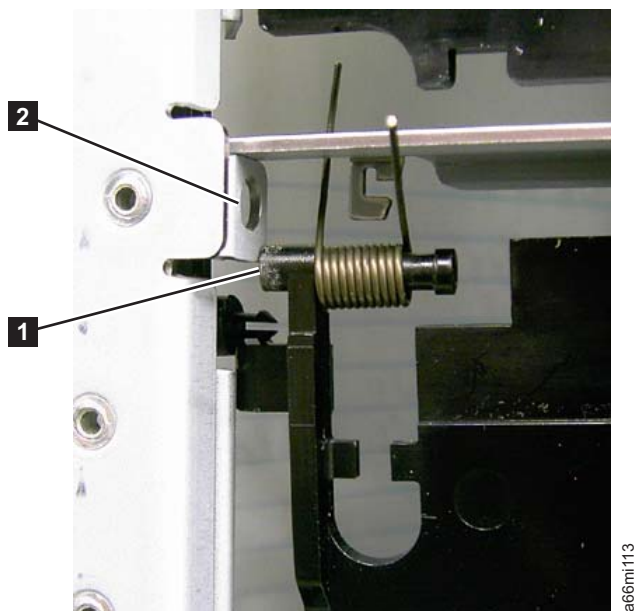

Figure 8-32. I/O Safety Flap Pivot Pin, Removed
6. Move the bottom flap to the right to remove the pivot pin (**1** in Figure 8-32 on page 8-34) from the pivot hole (**1** in Figure 8-32 on page 8-34). The bottom flap can now be removed from the library.